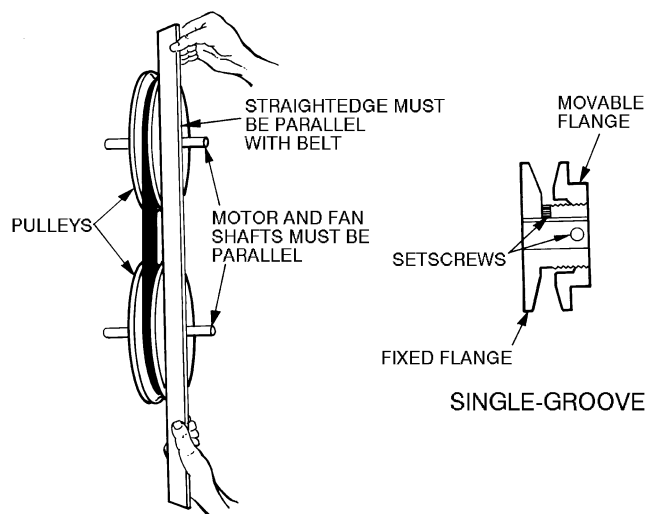

Fig. 34 — Evaporator-Fan Pulley Adjustment
3. Loosen movable pulley flange setscrew (see Fig. 34).